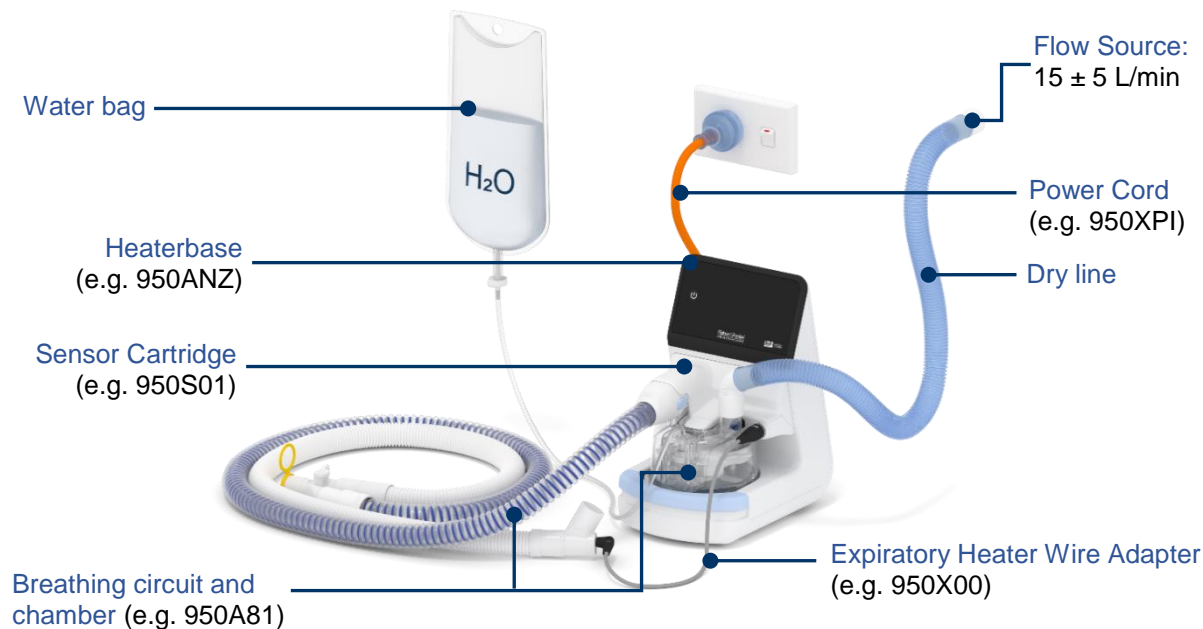

Figure 4.8 Equipment setup for warm-up check.
4.	Set up the heaterbase and its accessories as specified in Figure 4.8 .